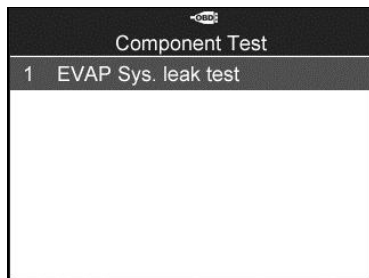

Figure 6.24
- 2) Wait for the scan tool to display the **Component Test** menu (Figure 6.24).